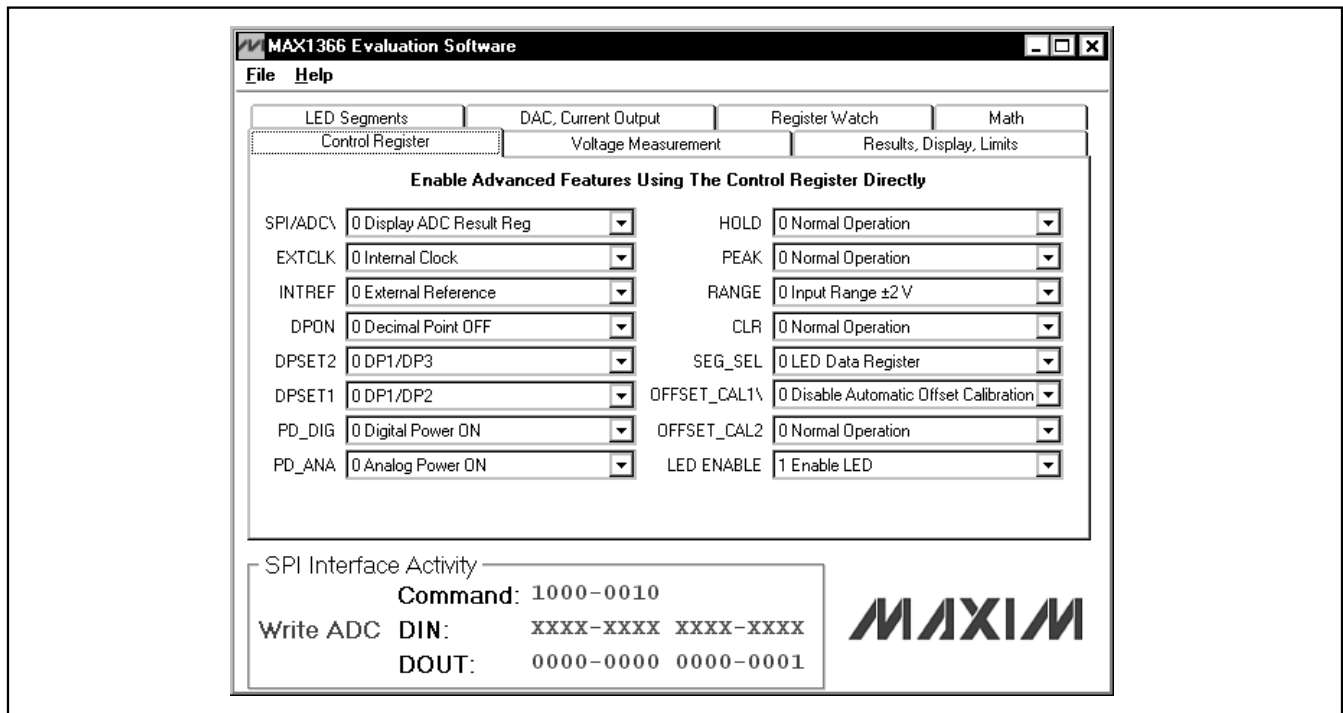

Figure 1. MAX1366 Evaluation Software—Control Register Tab
- 14) Start the MAX1366 EV kit software by opening its icon in the **Start** menu. The GUI window appears, as shown in Figure 1.
To start the MAX1366 EV kit software, double-click the MAX1366 EV kit icon created during installation. The GUI window appears, as shown in Figure 1. Wait approximately two seconds while the MAX1366 EV kit software connects to the CMAXQUSB board.
The **Control Register** tab shown in Figure 1 contains the primary control register for the MAX1366. Set or clear any bit in this register by choosing the appropriate dropdown menu.